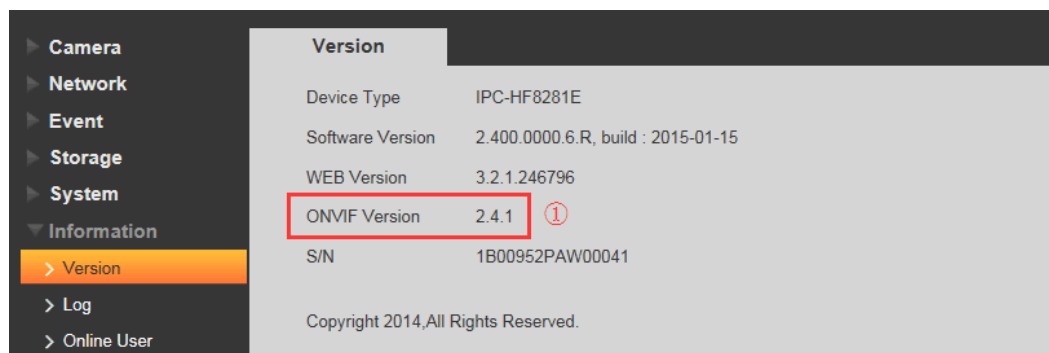

Figure 8-1
- 1) Check the ONVIF version, Figure 8-1